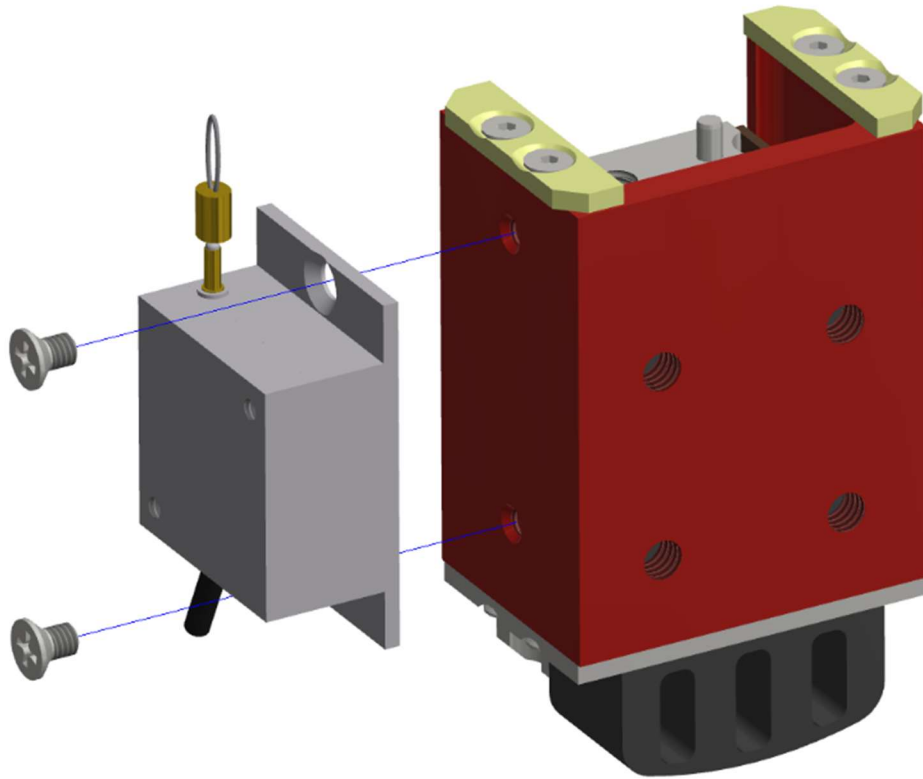

Figure 9-24. Detach String Pot and String Pot Mount Plate from the Left Knee Slider Assembly
9.2.16 Detach the String Pot and String Pot Mount Plate from the Left Knee Slider Assembly (474-5422) by removing two M2.5 X 0.45 X 4 LG. FHMSF as shown in Figure 9-24.